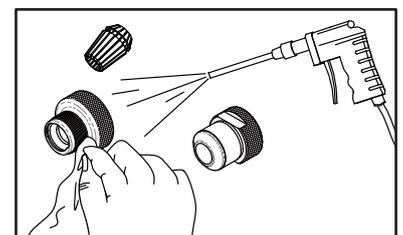
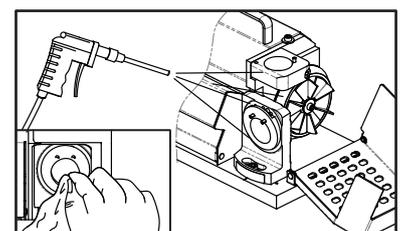

Fig. 10-4
Fig. 10-5
① Unplug the power cord and make sure the power is off.
② Disassemble the chuck set after use.
③ Use the air press gun to clean the scraps and dust out of all grinding shelves and all the accessories. (Fig. 10-4, Fig. 10-5)
④ Use clean cloth to clean each contact port and all the accessories, then put them back in order. (Fig. 10-4, Fig. 10-5)